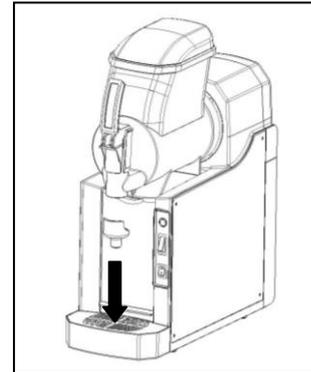

Fig. 13
- Remove the flood reducer as indicated in figure 13